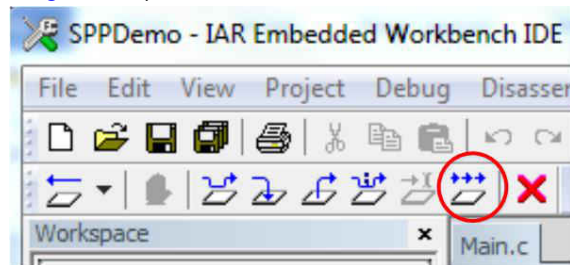

Figure 6-8. The Go Button
1. Click the Go icon in IAR (see Figure 6-8).